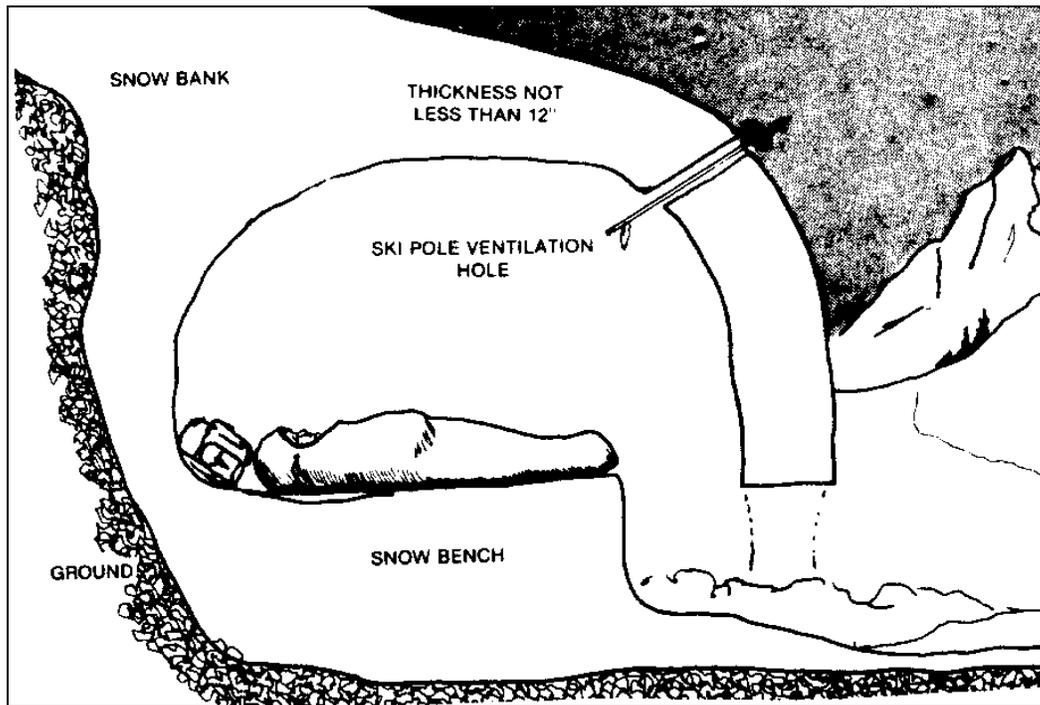

Figure 4: Tunnel Method
(1) A tunnel is made into the snow bank. Initially only one man can work but later two can be employed. The front man tunnels while the second clears the excavated snow away from the entrance. Having dug in approximately two meters, the location of the sleeping bench must be decided. If there appears to be plenty of snow, it is best to have a sleeping bench on either side of the tunnel lying along the axis. If the snow bank is narrow, it may be necessary to have the sleeping bench at right angles to the tunnel. A snow block can be used to seal the entrance but care must be taken to ensure that a ventilation hole is kept open. (See Figure 4)